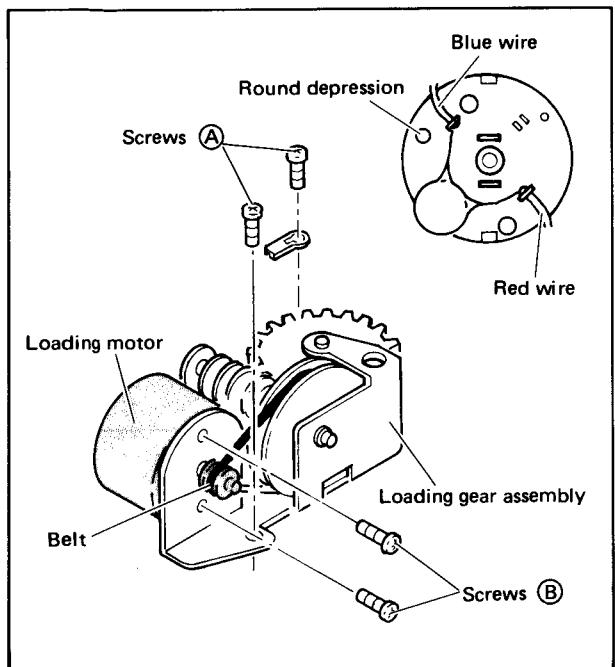

Fig. 4-19 Loading motor replacement
2. Take out screws **(A)** and remove the loading gear assembly as shown in Fig. 4-19.